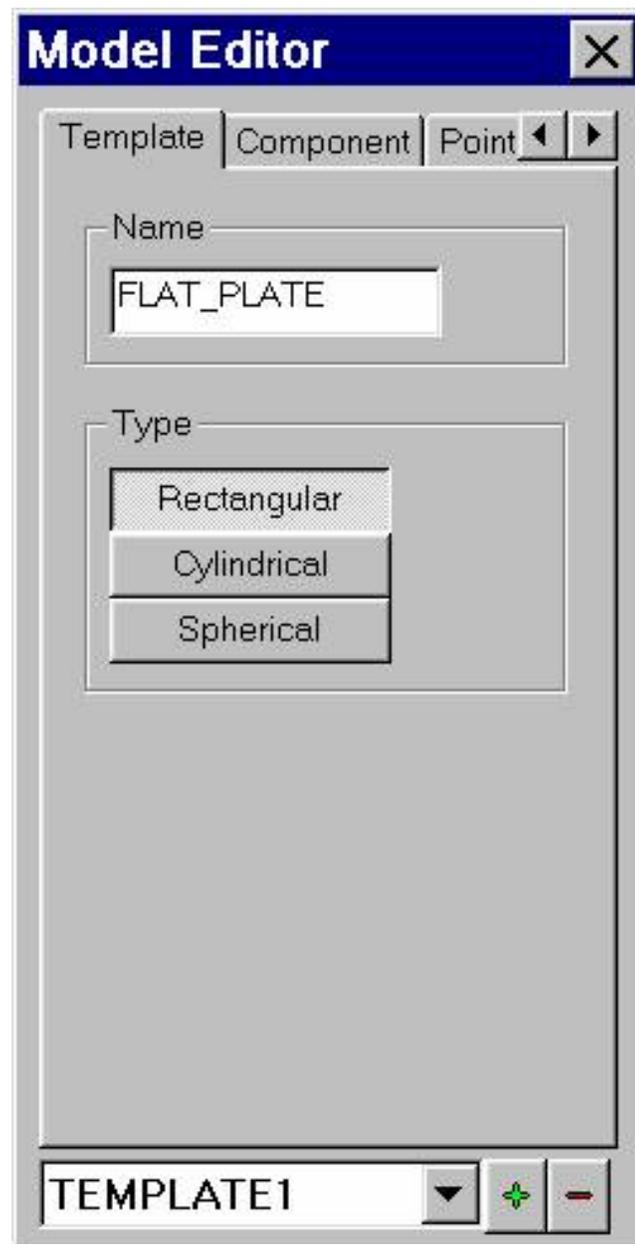

Figure 3
3) Click the Green “+” button (see Figure 3). Clicking the “+” creates new Template.